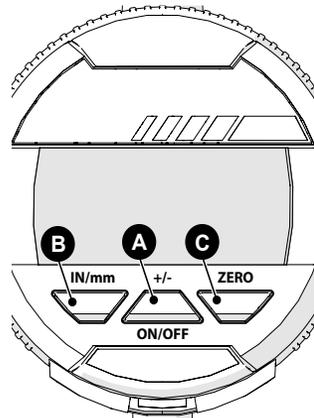

Fig. 6: Digital indicator
- ▶ Place the PIT GAGE on a known flat surface. Press the zero button (Fig. 6-C) holding the PIT GAGE in place for 2 seconds.
3.1. Digital Indicator (Fig. 6)